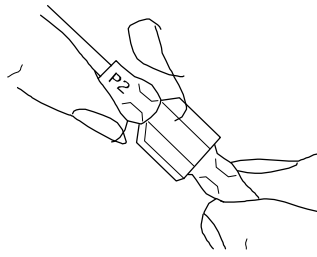

Figure 25 - Connecting P2 Wires
8. Insert the male port, which is on the black power supply wire (marked with P2), into the corresponding female port (marked with P2) (see Figure 25).